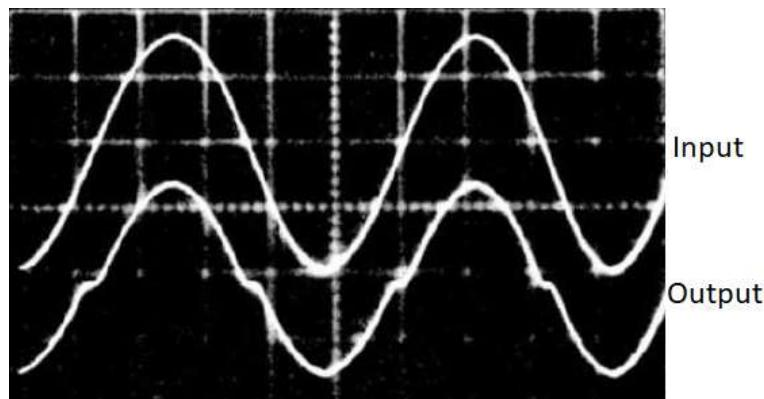

FIGURE 9-3: Input and Output Waveforms
2. Apply power to the breadboard and adjust the sine wave output level of the waveform generator at 4 V peak-to-peak and a frequency of 1 kHz. You should observe amplifier input and output waveforms like those shown in Figure 9-3. Notice that the output waveform is distorted in the vicinity of zero volts. This condition referred to as *crossover distortion* results when the base-emitter diodes of both transistors are not forward biased until the input signal exceeds approximately 0.7 V in both directions.